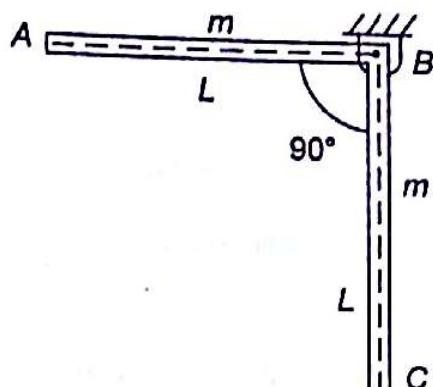

Fig. 18.17
- 18.1 A slender prismatic bar bent in at 90° is of length $2L$ and mass $2m$ as shown in Fig. 18.17. Bar is hinged at point B . It is released from rest, what is angular acceleration of bar?